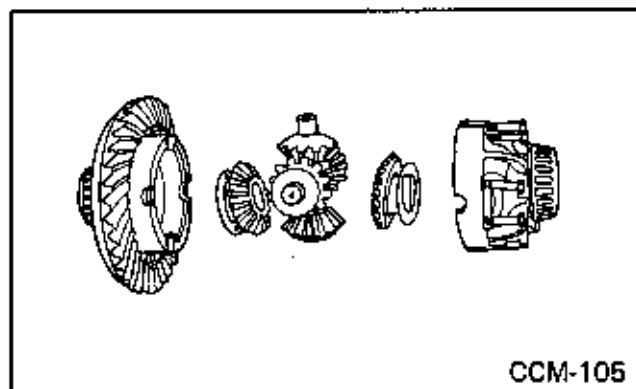

Fig. 100
3. Remove lock wires and differential case bolts. Separate halves. Remove spider and gears. (Fig. 100)